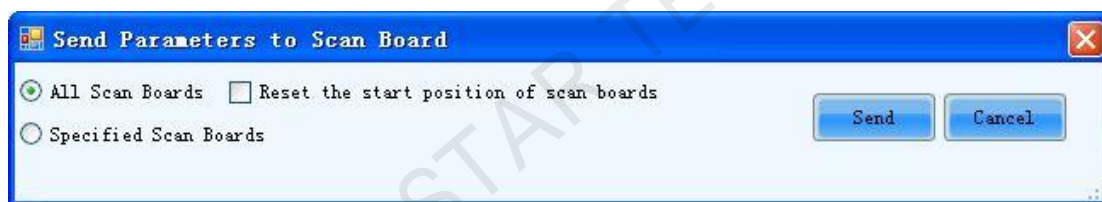

Fig. 7-19 Send parameters to all scan boards
- 2) If all parameter settings are acceptable, the dialog as shown in Fig. 7-19 will appear after clicking the **Send To HW** button.